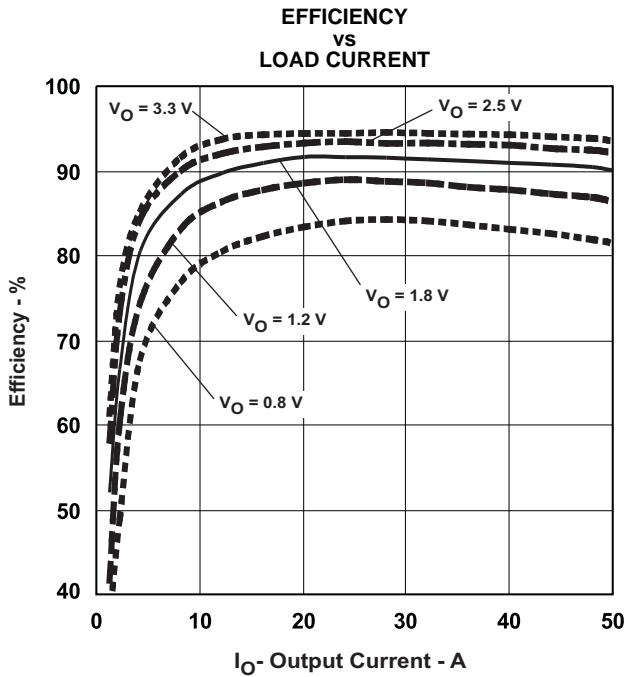
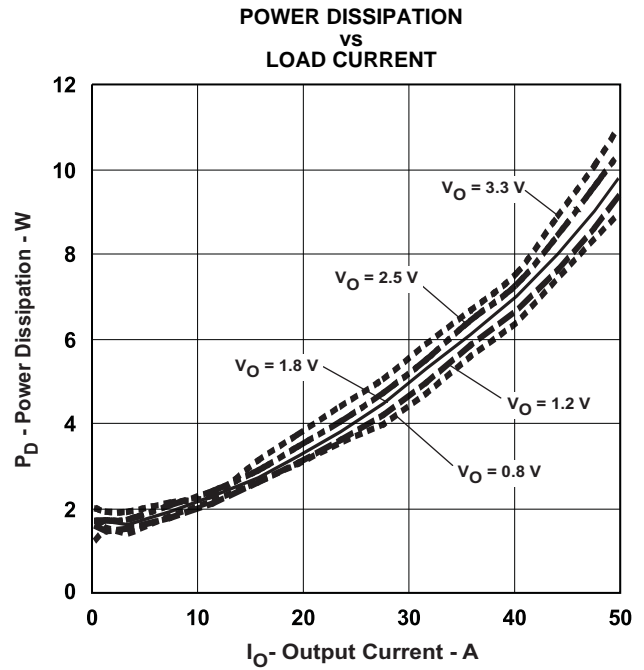

Figure 1.
Figure 2.
- (1) The electrical characteristic data has been developed from actual products tested at 25C. This data is considered typical for the converter. Applies to Figure 1 and Figure 2.